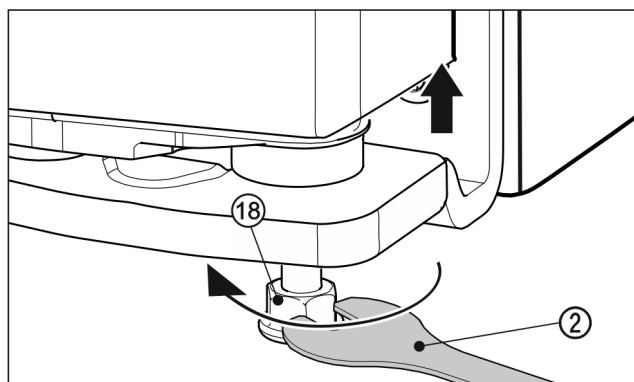

Fig. 26
- To lift the door, unscrew the adjusting foot Fig. 26 (18) clockwise using the supplied open-ended spanner Fig. 26 (2) until the foot makes contact with the floor. Then continue turning until the door is adjusted to the right height. When delivered, the bearing pin is completely screwed in.